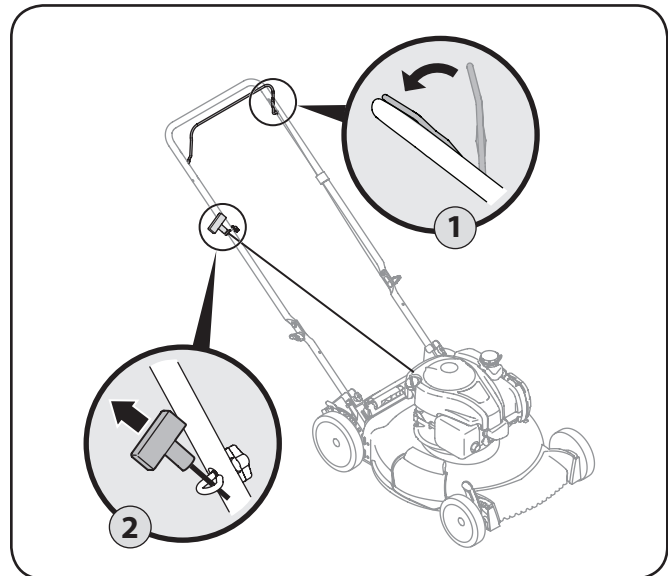

Figure 5-1
1. Standing behind the mower, squeeze the blade control against upper handle. See Figure 5-1.
2. Holding these two handles together firmly, grasp recoil starter handle and pull rope out with a rapid, continuous, full arm stroke. See Figure 5-1. Keeping a firm grip on the starter handle, let the rope rewind slowly. Repeat until engine cranks. Let the rope rewind each time slowly.